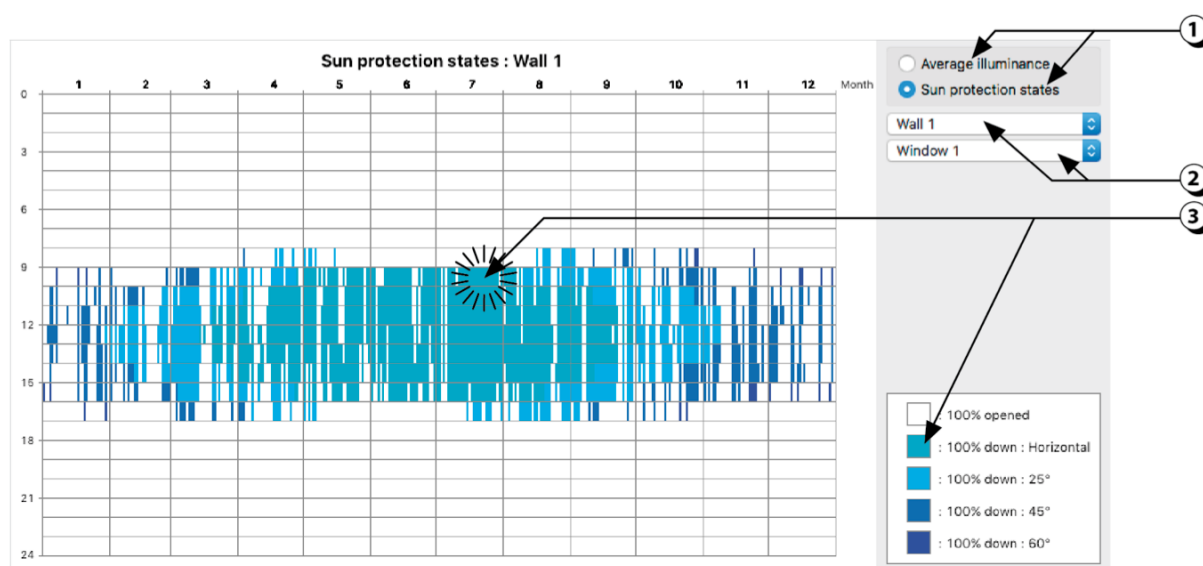

Figure 138: Display of the shading devices status along the year.
4. Click here to display a temporal map (carpet diagram) of the blinds status (cf. Figure 138).